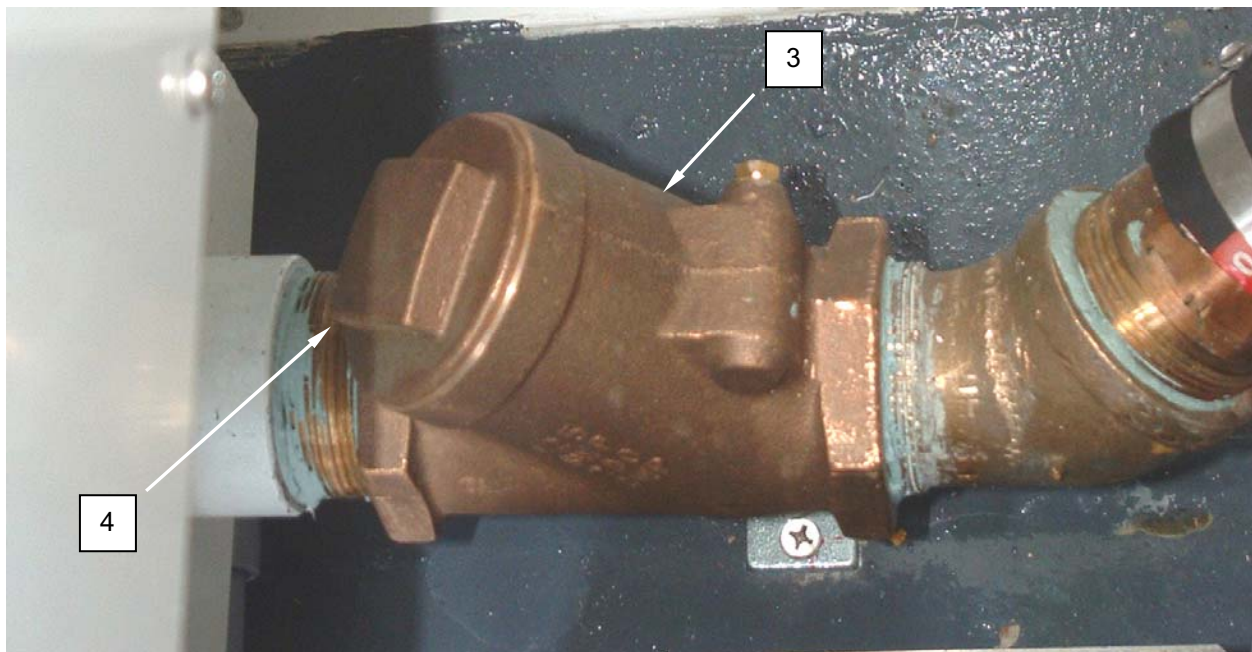

Figure 2. Clean Brass Check Valves.
3. Use a pipe wrench to steady the check valve (**Figure 2, Item 3**) and remove the check valve cap (**Figure 2, Item 4**).
5. Use a pipe wrench to steady the check valve (**Figure 2, Item 3**), and install the check valve cap (**Figure 2, Item 4**).